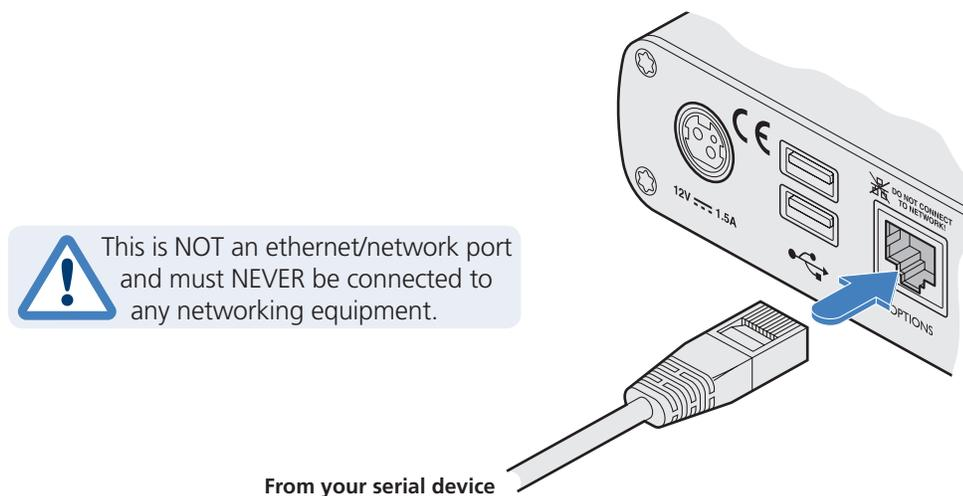

Figure 3-12. Connecting the serial OPTIONS port on the rear panel.
1. Use the optional serial cable to link the Options port on the rear panel of the remote module with your RS232 serial device. See Figure 3-12.